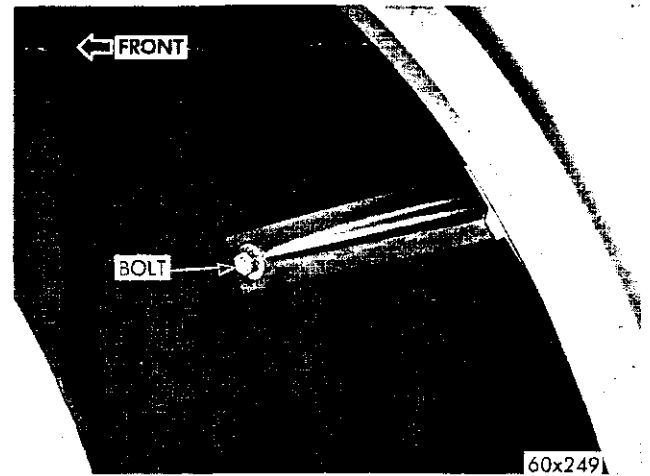

Fig. 7—Splash Shield to Cowl Mounting
- (7) Remove the bolts attaching the splash shields to the cowl (Fig. 7).